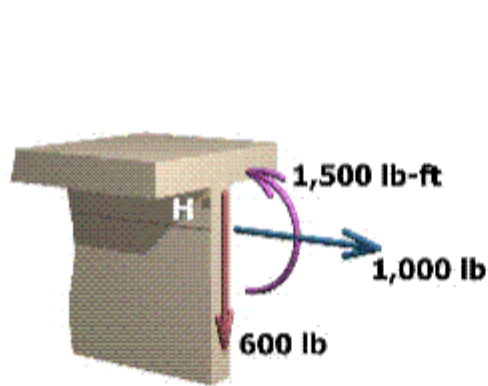
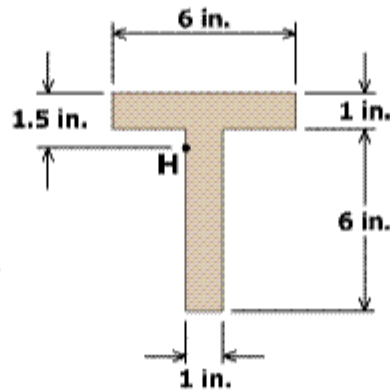

Fig. P15-17a
Fig. P15-17b
15.17 A tee-shaped flexural member (Fig. P15-17b) is subjected to an internal axial force of $P = 1,000$ lb, an internal shear force of $V = 600$ lb, and an internal bending moment of $M = 1,500$ lb-ft, as shown in Fig. P15-17a. Determine the principal stresses and the maximum shear stress acting at point H, which is located 1.5 in. below the top surface of the tee shape. ~~Show these stresses on an appropriate sketch.~~